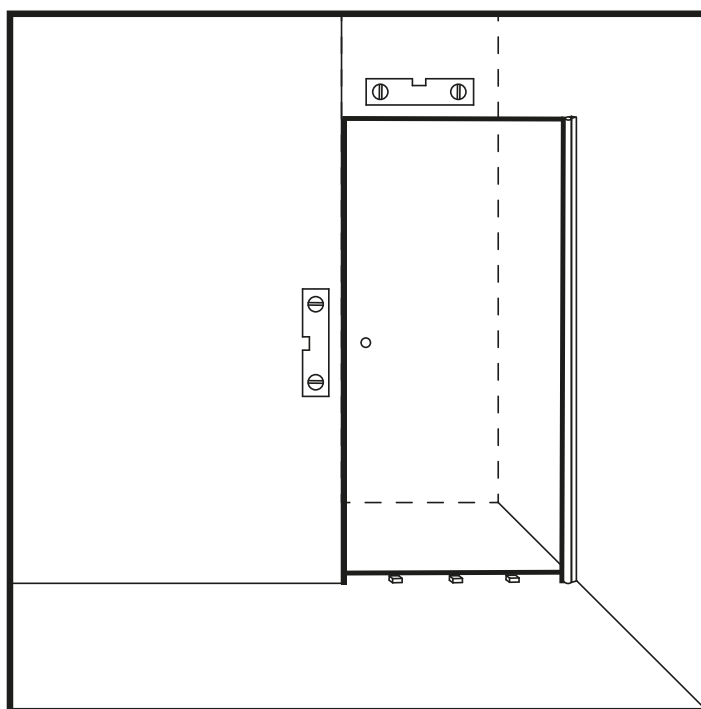

Figure 6
11. Make sure that the glass is fixed in the correct position inside the hinge bar profile and that the edges of the glass are level. (Figure 6)